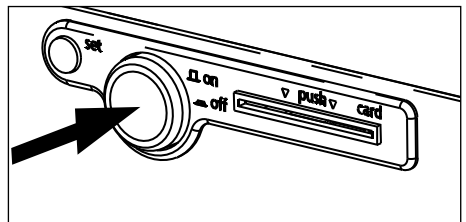

Fig. 17 Switching off incubator
- ▶ Switching off: press the main switch so that it retracts back into the appliance (Fig. 17).